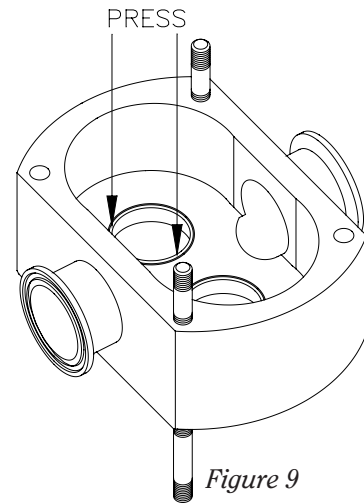
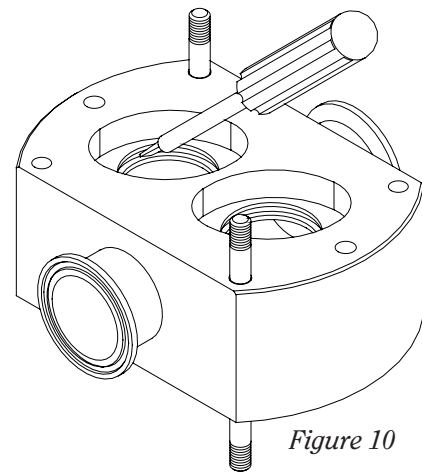

Figure 9
Figure 10
- d) Pull the rotating seals (18) off the gapping spacers (3) and remove both from the pump housing. Note: on the FL II 15 the gapping spacer have already been removed with the rotors.
- e) Place the pump housing (10) face up on a bench and rest it on the housing studs (35).
- f) Place your thumbs on the ID of the front stationary seals (14) and push downward to press the stationary seals out of the pump housing (*Figure 9*).
- g) The front seal springs (33) will come out with the stationary seals.
- h) Turn the pump housing over. Use a small flat blade screwdriver to remove the front stationary seal o-rings (13) from the grooves in the pump housing (*Figure 10*).
- j) Remove the gapping spacer o-rings (16) from the grooves in the gapping spacers (3) and discard.